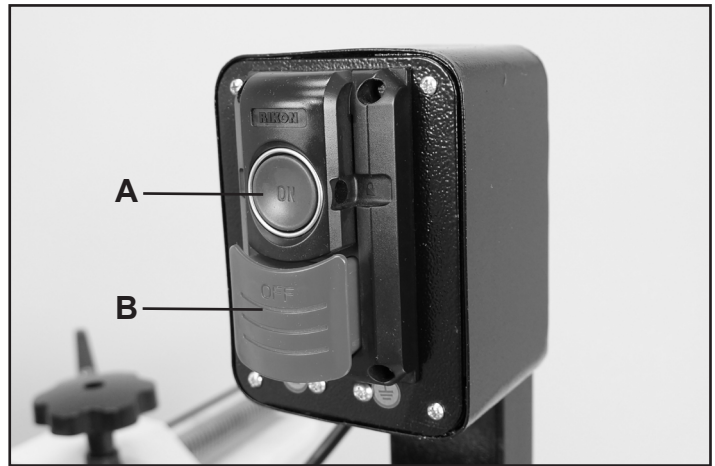

FIG. 17
2. The ON/OFF switch is located on the front of the jointer. To turn the jointer "ON", depress (A) the blue round button until a "snap" sound is heard.
3. To turn the jointer "OFF", depress (B) the red paddle until a "snap" sound is heard. FIG 17.